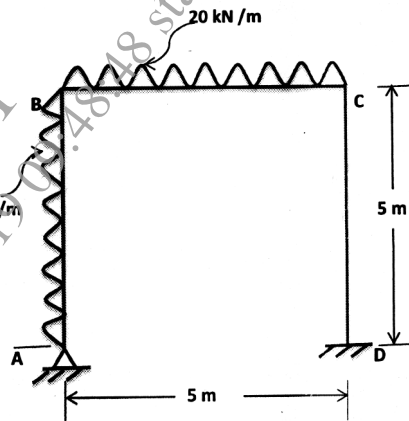

Fig. 12
8. (a) Fig. 12 shows a frame ABCD subjected to collapse load. Determine the plastic moment capacity of the section required. Assume the same section is going to be used throughout. [8]